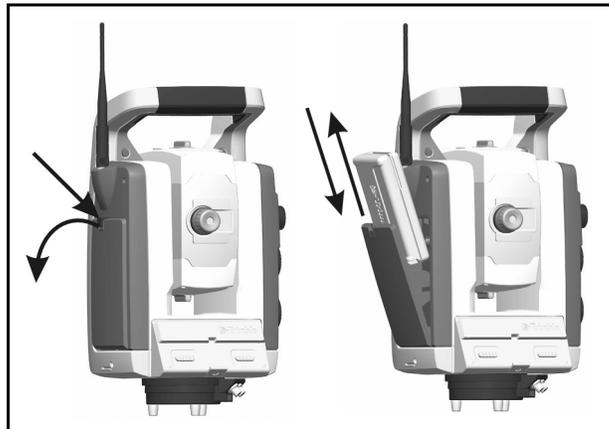

Figure 1.6 The internal battery
- a. Demonstrate how to replace the battery. See Figure 1.6.